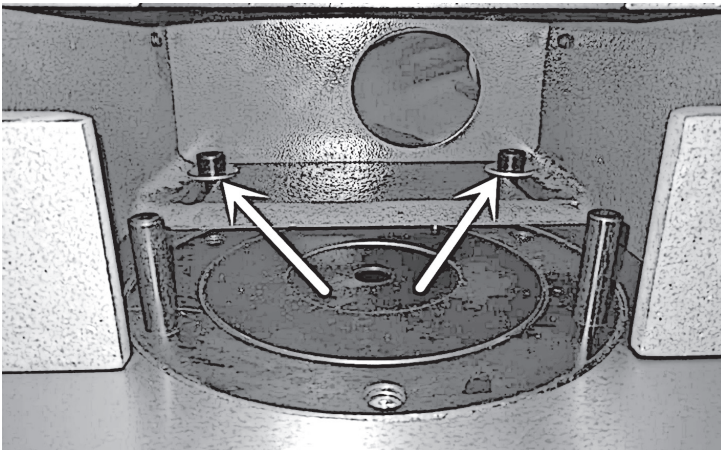

Fig. 14 Remove the cap screws.
2. Remove the cap screws with hex wrench as shown in figure 14.